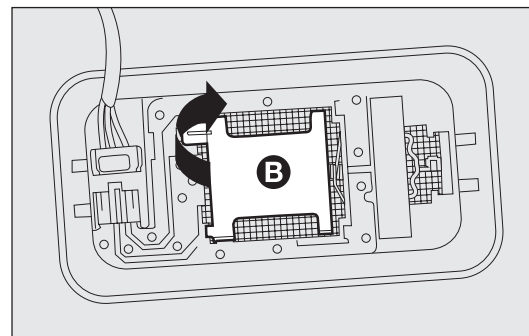

fig. 161
- ☐ open the cover B-fig. 161 as shown;